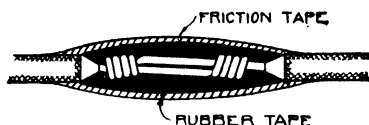

Fig. 53. Western Union Splice
**Solid Wires.** *Western Union Splice.* The Western Union splice, Fig. 53, is made by holding the two conductors with one pair of pliers